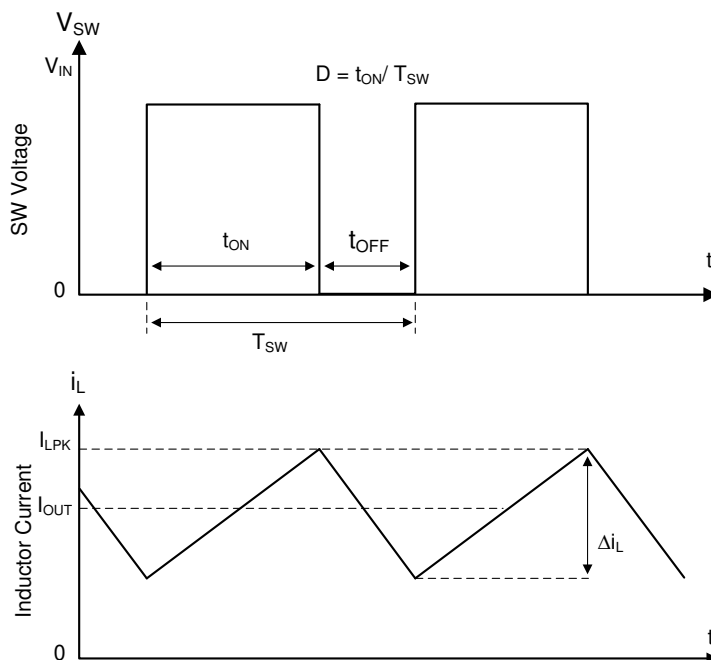

Figure 8-1. SW Node and Inductor Current Waveforms in Continuous Conduction Mode (CCM)
The following operating description of the LMR50410-Q1 refers to Section 8.2 and to the waveforms in Figure 8-1. The LMR50410-Q1 is a step-down synchronous buck converter with integrated high-side (HS) and low-side (LS) switches (synchronous rectifier). The LMR50410-Q1 supplies a regulated output voltage by turning on the high-side and low-side NMOS switches with controlled duty cycle. During high-side switch ON time, the SW pin voltage swings up to approximately V_{IN} , and the inductor current, i_L , increases with linear slope $(V_{IN} - V_{OUT}) / L$. When the high-side switch is turned off by the control logic, the low-side switch is turned on after an anti-shoot-through dead time. Inductor current discharges through the low-side switch with a slope of $-V_{OUT} / L$. The control parameter of a buck converter is defined as Duty Cycle $D = t_{ON} / T_{SW}$, where t_{ON} is the high-side switch ON time and T_{SW} is the switching period. The converter control loop maintains a constant output voltage by adjusting the duty cycle D . In an ideal buck converter, where losses are ignored, D is proportional to the output voltage and inversely proportional to the input voltage: $D = V_{OUT} / V_{IN}$.